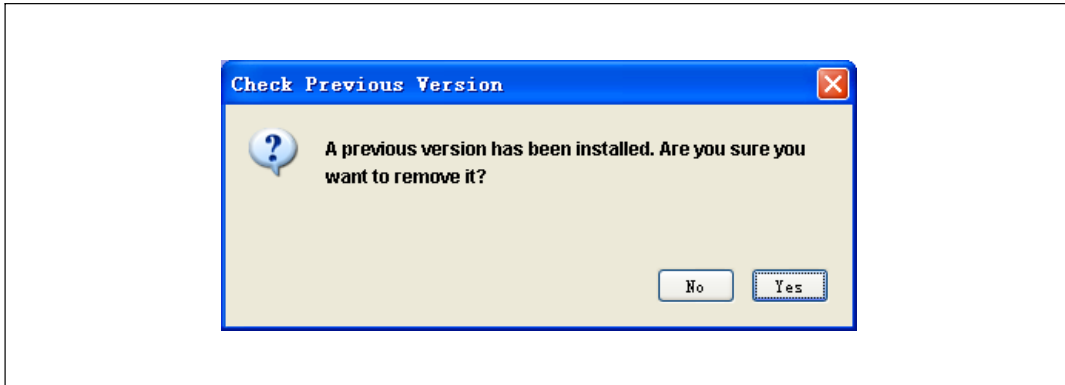

Figure 10. Removing the Previous Software Version
- 4 If there is a previously installed version of the Dell UPS Management Software, the software prompts you to remove it. Click Yes to remove the software and continue with the installation (see Figure 10).